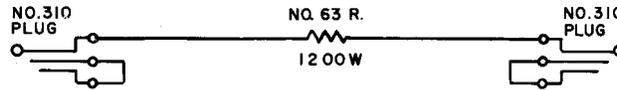

Fig. 1
2.10 For No. 1 step-by-step offices, one special patching cord (to be made up locally) equipped with two 310 plugs, with sleeve and ring elements short-circuited and a 63R resistor, connected as shown in Fig. 1.
| 11a | If testing in No. 1 step-by-step office—Using special patching cord shown in Fig. 1, connect connector test line jacks 3 and 4 in nonlevel hunting group together at connector frame or at coin trunk relay rack.Insert one plug into jack 4 and then the other into jack 3. |  |